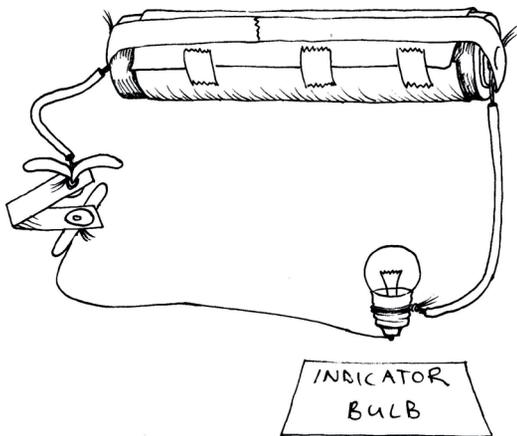

Figure 3
1. Set up the circuit shown in Figure 3. Press the switch to make the bulb glow, and notice how brightly it glows. This first bulb will be your *indicator bulb*.